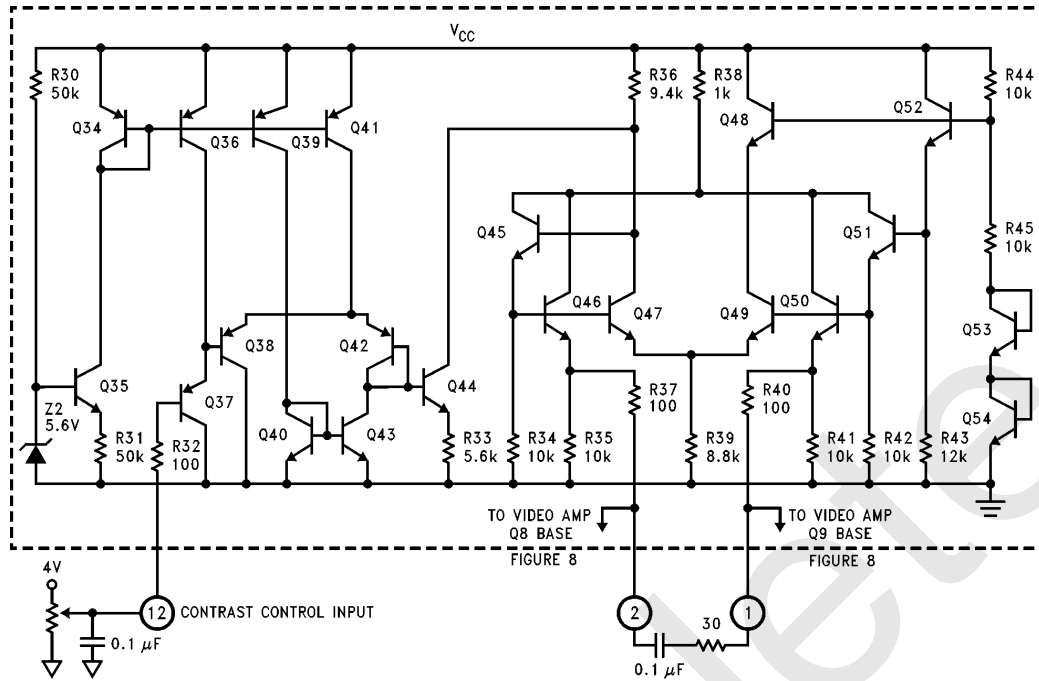
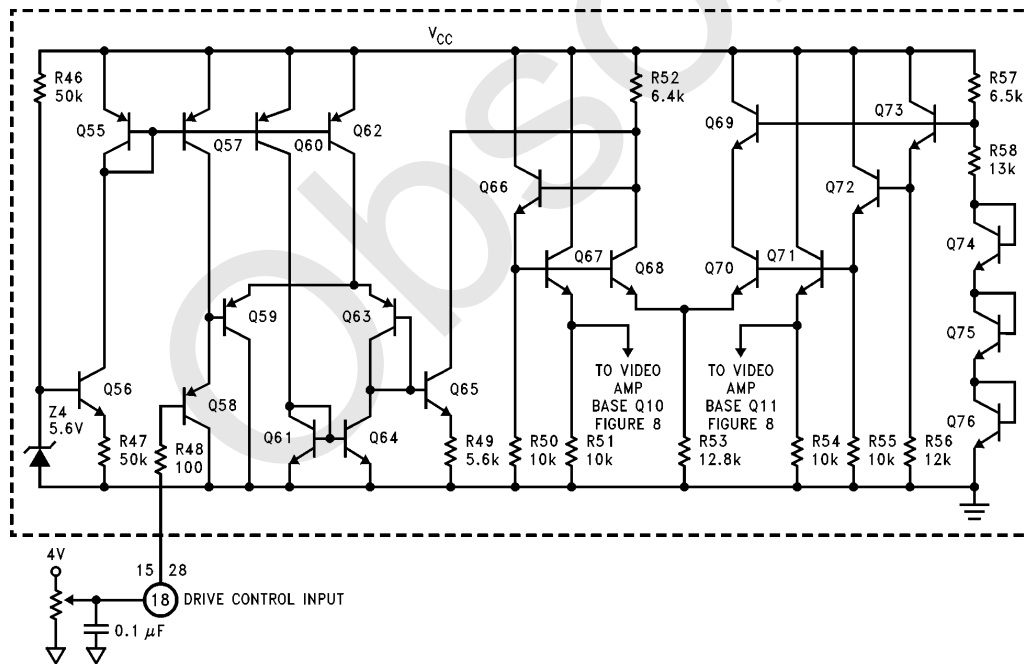

FIGURE 9. Simplified Schematic of LM1205/LM1207 Contrast Control
FIGURE 10. Simplified Schematic of LM1205/LM1207 Drive Control
*Figure 9* is a simplified schematic of the Contrast Control circuit. The output of this circuit is common to all three channels. A reference voltage is generated by Z2, Q34, Q35, R30, and R31. Q36, Q39, and Q41 are all current sources that are controlled by the reference voltage. The contrast signal has a 0V to 4V range with its input at pin 12. R32 is used for current limiting any voltage surge that may occur at pin 12. Note that the input stage (Q37, Q38, and Q42) are all PNP transistors. This configuration is necessary for operation down to near ground. At Q44 the input voltage is converted to a current by R33. The input stage will apply the same voltage across R33 as is applied at the input and with no temperature variations from the transistors. Q37 is connected to a current source (Q36) to keep a constant current flow through Q37 and a predictable diode voltage for the base-emitter of Q37. Q40 is connected as a diode and is biased by the current source Q39. The current through Q40 is mirrored into Q43, giving a current bias for Q42. Again this is done to give a predictable diode voltage for Q42. Q41 is a current source for both Q38 and Q42. With the current through Q42 already established, the rest of the current from Q41 flows through Q38. As one can see the input voltage is accurately reflected across R33 with no temperature coefficients from the input stage of the contrast control circuit.
*Figure 10* is a simplified schematic of the Drive Control circuit. Each channel has its own drive control circuit. This circuit is almost identical to *Figure 9*, the contrast control circuit. It will be easier to cover the differences between the two circuits instead of going through virtually the same circuit description. Note that the input stage is **exactly** the same. The generation of the reference voltage at the right hand side of *Figure 10* is slightly different than the circuit in *Figure 9*. In the drive control circuit the reference voltage at the base of Q72 is to be  $\frac{2}{3}V_{CC}$ . In the contrast control circuit the reference voltage at the base of Q51 was to be  $\frac{1}{2}V_{CC}$ . To generate the  $\frac{2}{3}V_{CC}$  R57 and R58 form a 2 to 1 voltage divider. With the two to one ratio it is now necessary to have three transistors connected as diodes, which are Q74, Q75, and Q76. Q73 is the buffer for this voltage divider and its emitter is exactly  $\frac{2}{3}V_{CC}$  with temperature compensation. R52 and R53 also differ from their corresponding resistors in *Figure 9*, R36 and R39. The value difference is so the base of Q66 is also at  $\frac{2}{3}V_{CC}$  when the input drive voltage is at 2V. R38 in *Figure 9* was needed for current limiting at the output pins. Since each channel has its own drive control circuit no filtering is required, eliminating the need for external pins. With no external pins no current limiting is necessary, thus the 1k resistor is not used in the drive control circuit.